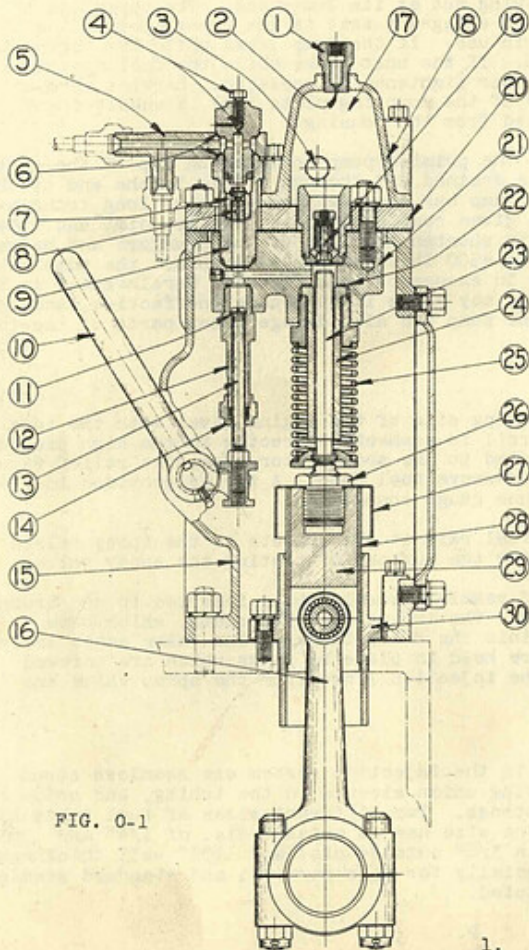

FIG. 0-1
Referring to Fig. 0-1 cast iron guides (30), located in holes in the centerframe and secured by capscrews, carry crossheads (29), which are actuated by the crankshaft and connecting rods (16). The bronze connecting rods have a clearance of .0005" to .0025" on their crankpins and a side play of .005" to .009". Roller bearings in the upper end of the connecting rods constitute the wrist pin bearings, and the pins have .0005" to .0015" clearance in the crossheads. Each crosshead has a replaceable bronze sleeve (28), held in place by a shoulder on the lower end of the crosshead and by the oil guard (27) and plug (26) at the upper end. The clearance between this sleeve and the crosshead guide is .002" to .004" and if it becomes excessive new sleeves should be installed. Lubrication is by spray from the cranks.